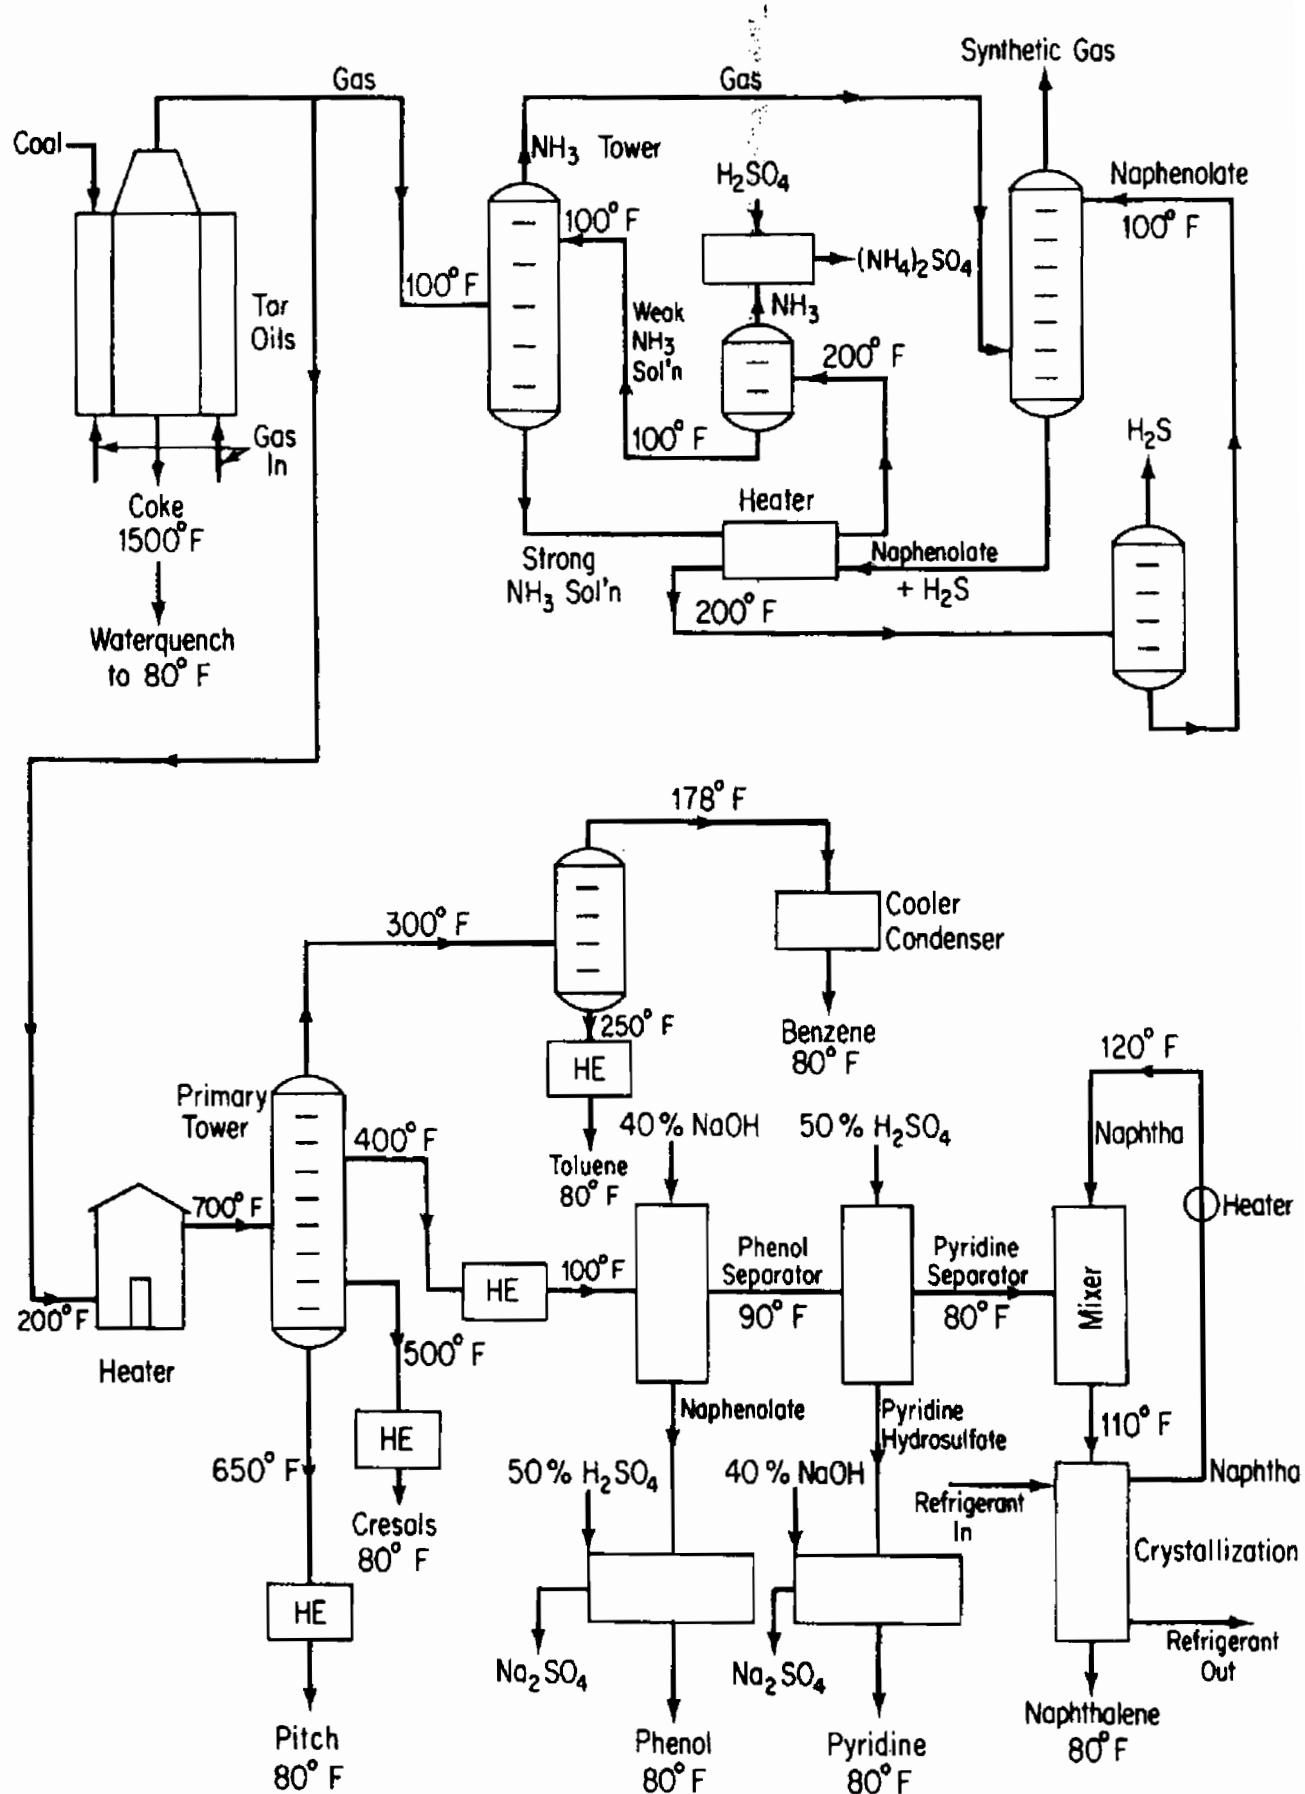

Figure P31.11
- 31.11** When coal is distilled by heating without contact with air, a wide variety of solid, liquid, and gaseous products of commercial importance are produced, as well as some significant air pollutants. The nature and amounts of the products produced depend on the temperature used in the decomposition and the type of coal. At low temperatures (400 to 750°C) the yield of synthetic gas is small relative to the yield of liquid products, whereas at high temperatures (above 900°C) the reverse is true. For the typical process flowsheet, shown in Figure P31.11.